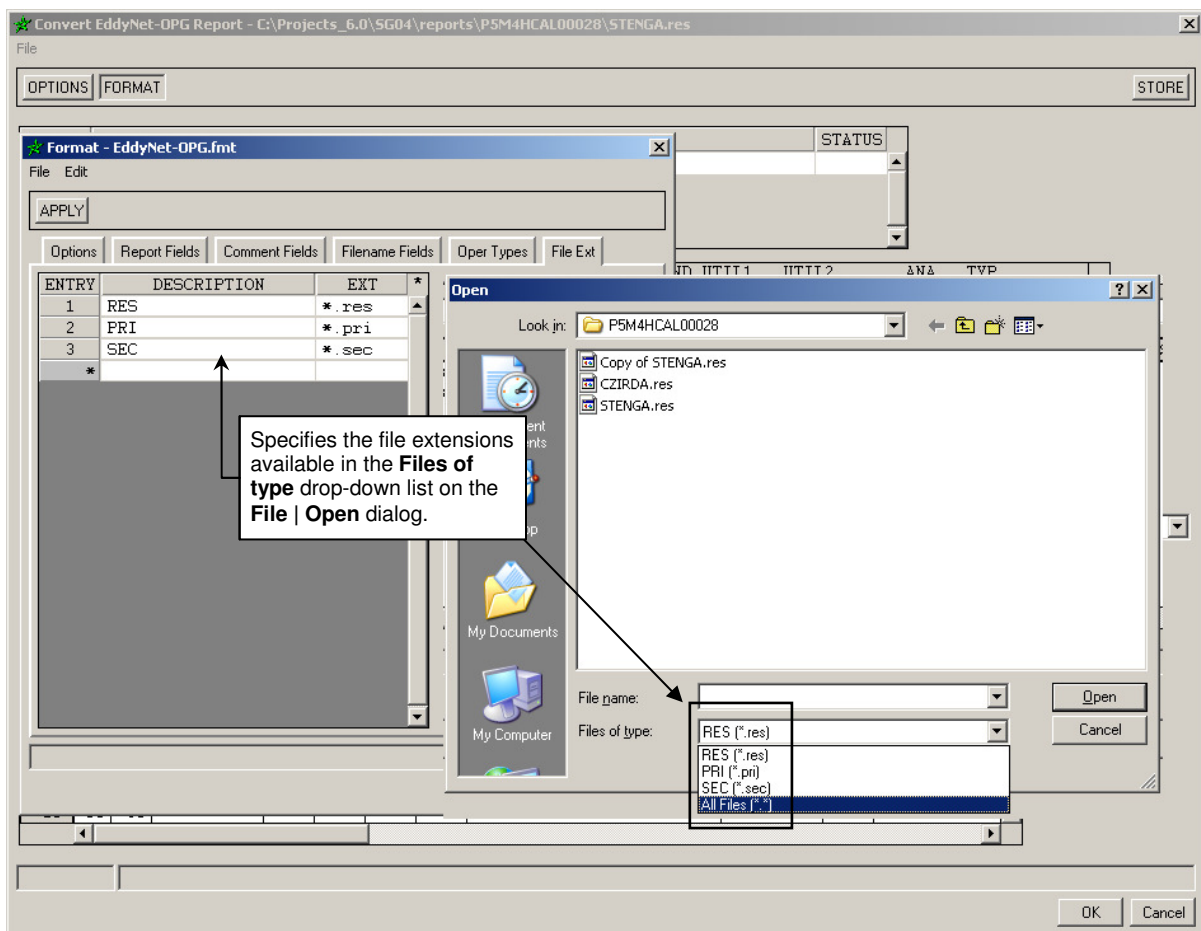

Figure 53. Util | Convert Report Dialog | Format Dialog | File Ext Tab
The **File Ext** tab on the **Format** dialog is shown in Figure 53. This interface allows the user to modify the list of file extensions available in the **File | Open** dialog of the main **Convert Report** window. This is very useful to filter only the source report files of interest when using the report converter utility.
- **File Ext Tab | Description** column simply allows the user to enter user-defined descriptions of the each file extension type. Descriptions are limited to a maximum of twenty (20) characters including spaces. For example, *primary* source report descriptions could include “primary”, “PRI”, “All primary reports”, etc.
- **File Ext Tab | Ext** specifies extensions as they will appear in the **Files of type** drop-down list on the **File | Open** dialog as shown in Figure 53. The extension must be in the form of **\*.pri**, **\*.txt**, etc. Extension names are limited to a maximum of six (6) characters after the dot, i.e., **\*.123456**.